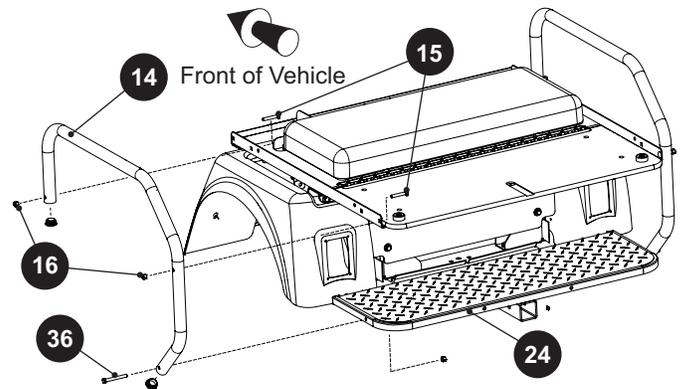

Fig. 2 Arm Rest Removal
1. Remove the two bolts (15) and lock nuts (16) securing the armrest (14) to the seat frame (Ref. Fig. 2).
2. Remove the bolts (36) and lock nuts (16) securing the armrest (14) to the footrest (24).
3. Remove the armrests (14) from the rear seat (Ref. Fig. 2).